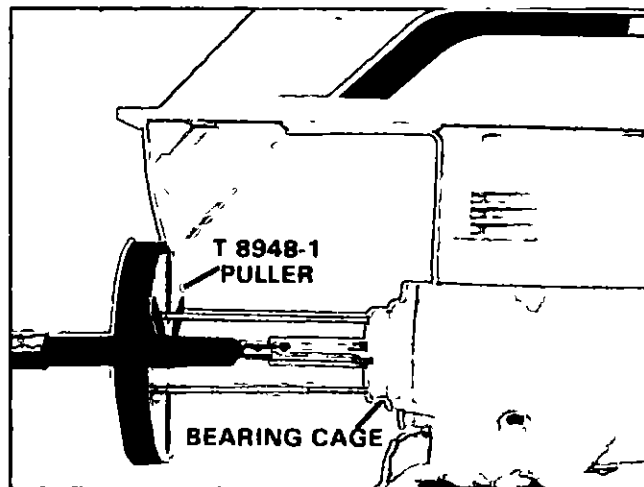

Figure 25. Removing Bearing Cage.
- A Remove two (2) fillhead screws securing bearing cage assembly to lower gear housing
- B Install puller (Special Tool No T 8948-1) Remove bearing cage assembly Figure 25